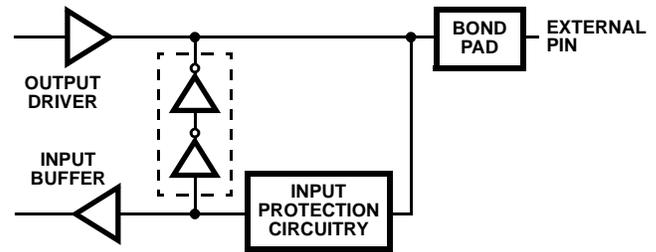

FIGURE 6. BUS HOLD CIRCUITRY PINS 2-16 AND 35-39
The basic difference between the interrupt acknowledge cycle and a read cycle is that the interrupt acknowledge (INTA) signal is asserted in place of the read (RD) signal and the address bus is held at the last valid logic state by internal bus-hold devices (see Figure 6). In the second of two successive INTA cycles, a byte of information is read from the data bus, as supplied by the interrupt system logic (i.e., 82C59A priority interrupt controller). This byte identifies the source (type) of the interrupt. It is multiplied by four and used as a pointer into the interrupt vector lookup table, as described earlier.